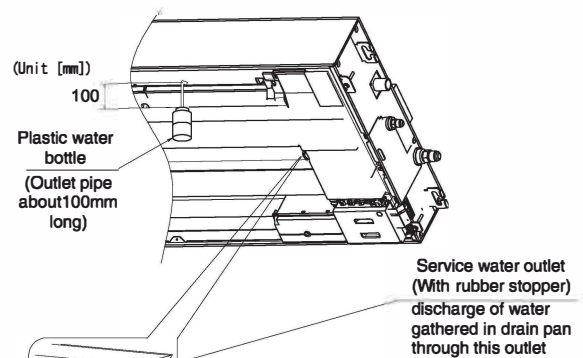

Figure 18 [Water adding method]
5. After completing drainage inspection (Figures 18 and 19), shut off the power supply and remove the power wiring.